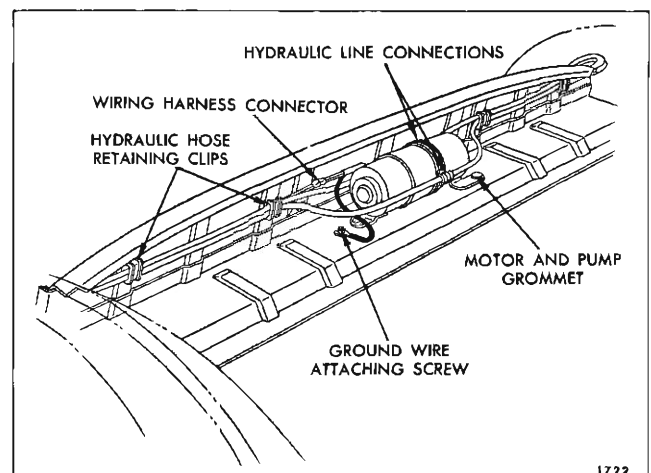

Fig. 2-I-58 — Motor and Pump Assembly
2. Scribe a line across pump end plate and reservoir tube to insure a correct assembly of parts. See Fig. 2I60.